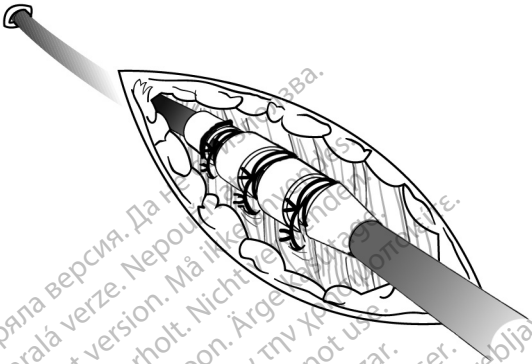

Figure 11. Example of suture sleeve, percutaneous implant technique
1. Peel back the introducer sheath and slide the suture sleeve deep into the tissue (Figure 11 Example of suture sleeve, percutaneous implant technique on page 30).